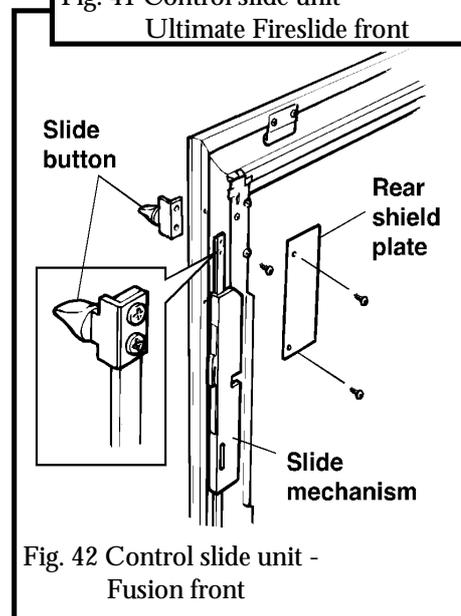

Fig. 42 Control slide unit - Fusion front
15.4B.2 Detach the rear shield plate by removing two screws from the rear right side of the front surround (See fig. 42).
15.4.3 Remove the two screws securing the slide button to the back of the slide mechanism bar. Raise the button to clear the bar and pull through the slot in the surround side (See fig. 42).